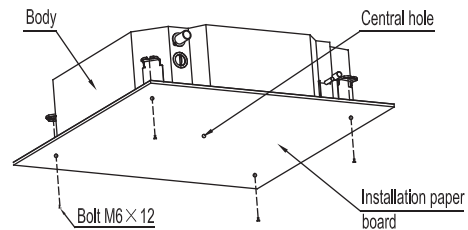

Fig.5-6
- 2 After installing the body, please fasten the installation paper board onto the air conditioner with bolts(M6X12) to determine in advance the sizes and positions of the hole opening on ceiling. (Refer to Fig.5-6)